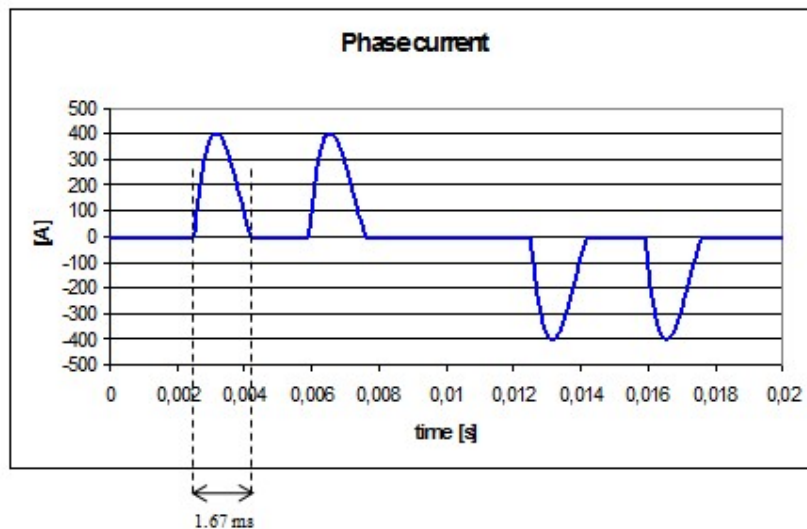

Figure 1
- c) Calculate the rms-current and the average current through one rectifying diode (see figure 1, assume half-sinusoid shape). Calculate the rectifier diode losses. The diode threshold voltage is 1.0 V and the differential resistance is 1.8 mOhm. (2 p.)